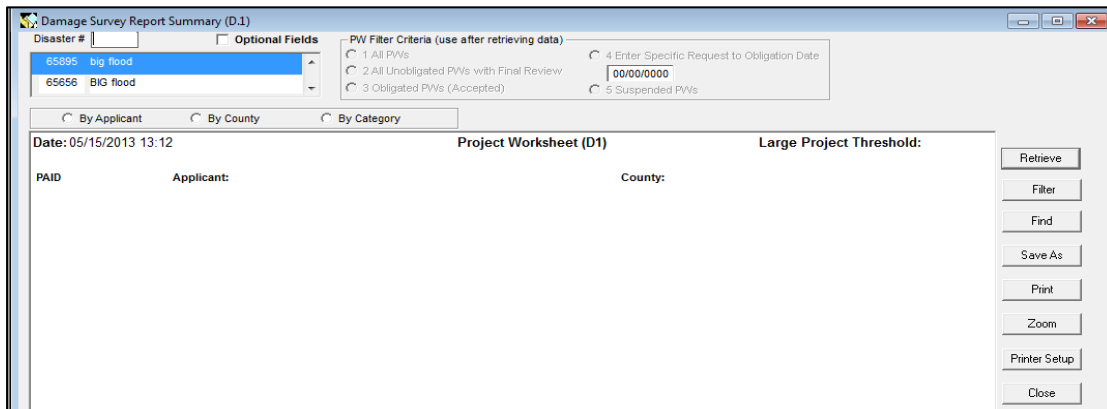

Figure 14-7: Infrastructure Support Report Generator
- b. Double-click on an Infrastructure Support report. The Report Generator is displayed (Figure 14-7).